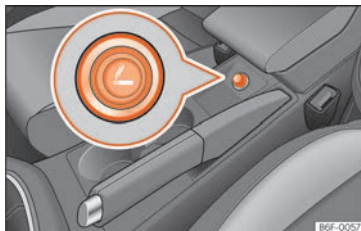

Fig. 161 Lighter.
- Press on the cigarette lighter » Fig. 161 to activate it » ⚠.